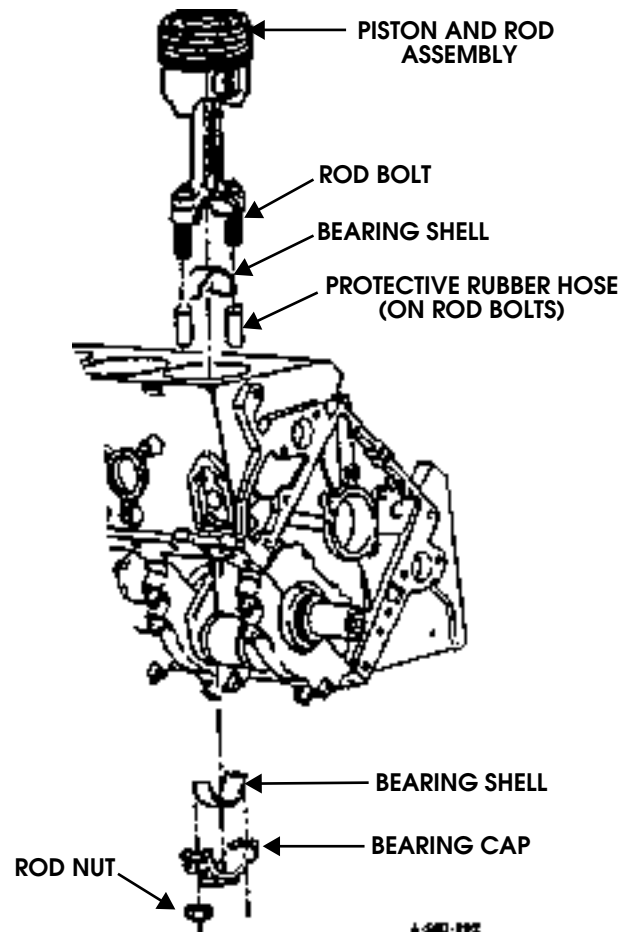

Figure 2-160: Piston and Rod Assembly
Verify correct piston and rod assembly. Be sure piston crown relief and notches in rod for bearing inserts are aligned (Figure 2-160).
4. Install lengths of rubber hose on each connecting rod bolt. Hose will prevent cylinder wall scratches and nicks during piston installation (Figure 2-160).